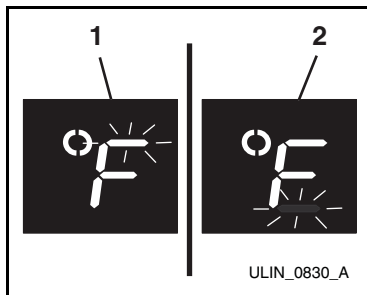

Figure 7
1. Press and release the WARMER icon. The top of the F in °F (**Figure 7, 1**) of the top drawer will begin to flash. This will allow you to adjust the temperature of the top drawer. In 10 seconds of inactivity, the bottom bar of the F in °F (**Figure 7, 2**) will begin to flash; this will allow you to adjust the temperature of the bottom drawer. Adjustments to the lower drawer can be made immediately if the LIGHT icon is pressed.